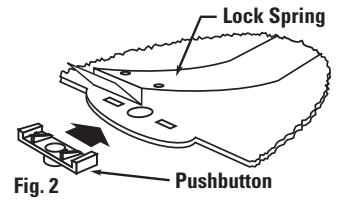

Fig. 2
3. Raise end of lock spring. Do not over-bend spring. **See Figure 2**